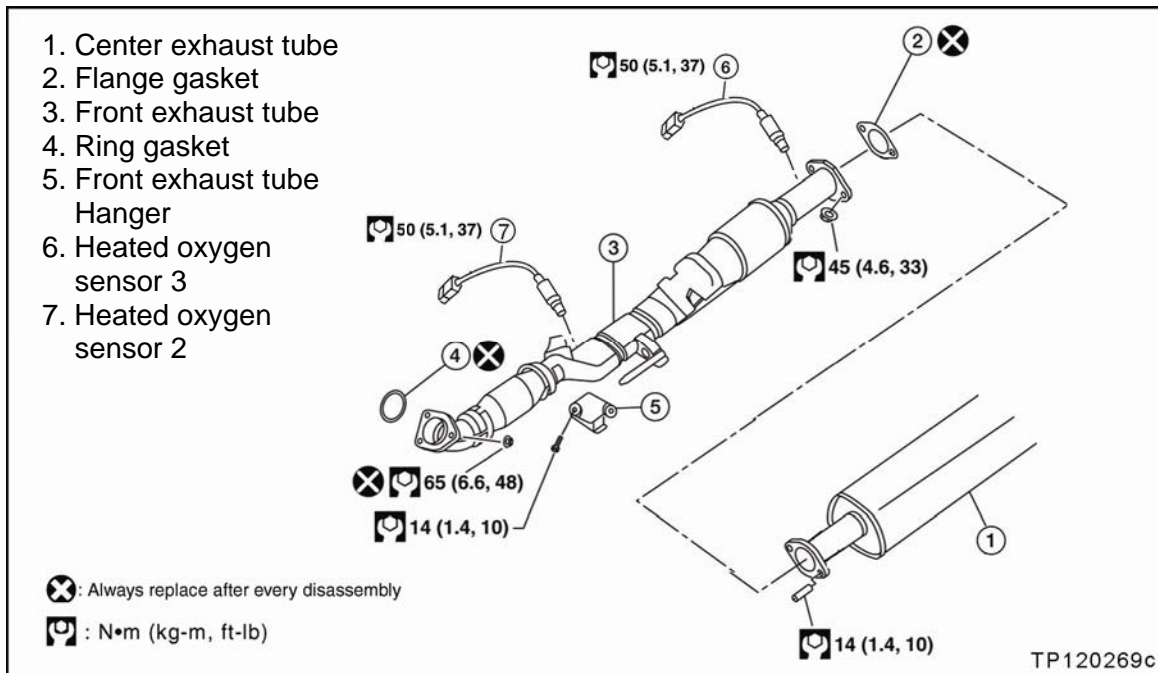

Figure T3
4. Remove the front exhaust tube as follows (refer to Figure T3):
- Refer to Figure T3 for torque specifications.